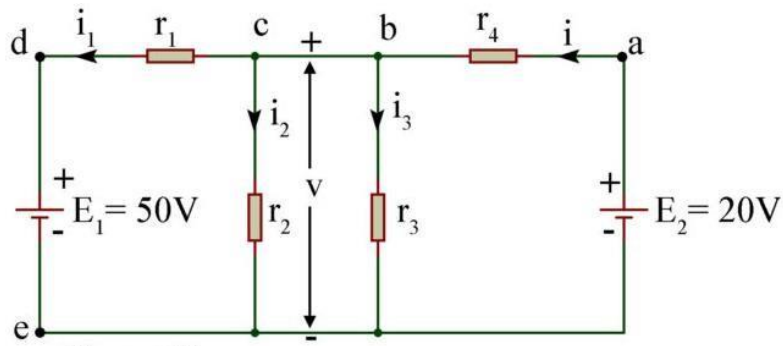

Figure: 2
**Solution:** Let us redraw the circuit with naming of the nodes and branch current as shown in figure 2.
magnetic circuit with an air gap is shown in Fig. 2. An air-gap is nothing else but a volume of air between two magnetic surfaces. The length of air gap  $l_g$  equals the distance between the two magnetic surfaces. The area of x-section of any one of the surfaces gives the air-gap area  $a_g$ . When the air-gap length  $l_g$  is much smaller than the dimensions of the adjacent core faces, the magnetic flux  $\phi$  is constrained essentially to reside in the core and the air gap and is continuous throughout the magnetic circuit.
Thus, the configuration shown in Fig. 2 can be analyzed as a magnetic circuit with two series components, a magnetic or iron core of permeability  $\mu$  and mean length  $l_i$  and an air-gap of permeability  $\mu_0$  and length  $l_g$ . Since the permeability of air is constant, the air-gap is a linear part of the magnetic circuit and the flux density in the air-gap is proportional to the mmf across the air-gap. The necessary mmf is calculated separately for the air-gap and the iron portions and then added to determine the total mmf.